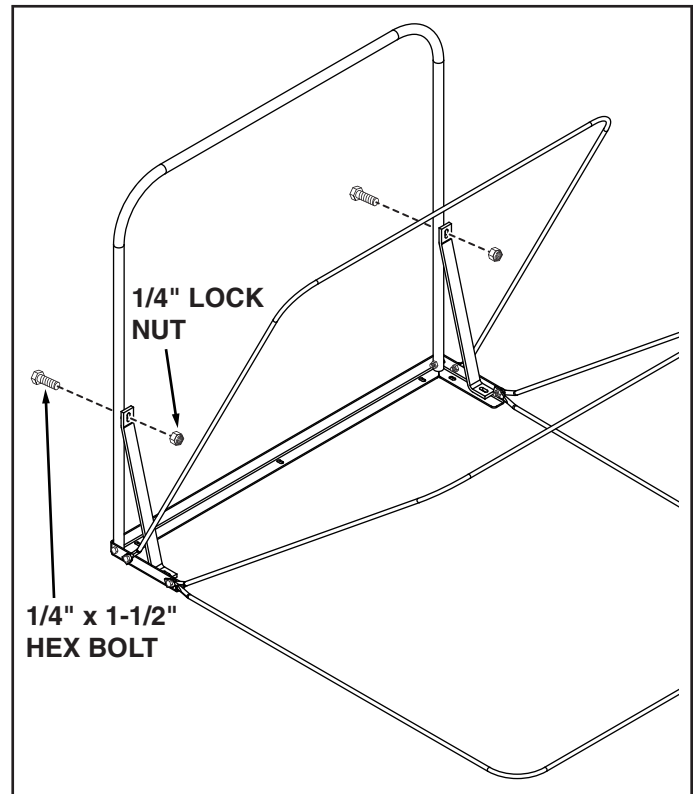

FIGURE 11
1. Attach the braces to the front support tube using two 1/4" x 1-1/2" hex bolts and 1/4" lock nuts. **DO NOT TIGHTEN YET.** See figure 11.